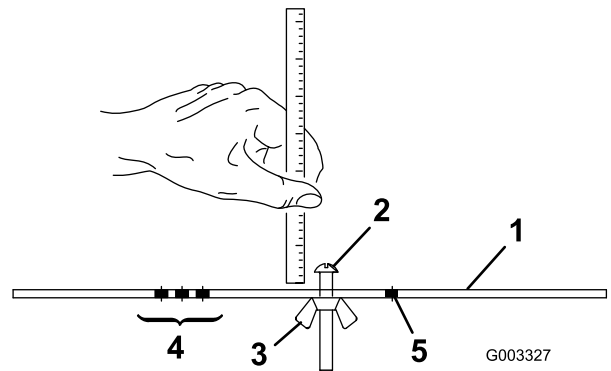

Figure 16
2. Loosen the nut on the gauge bar (Figure 16) and set the adjusting screw to the desired height of cut. The distance between the bottom of the screw head and the face of the bar is the height of cut.